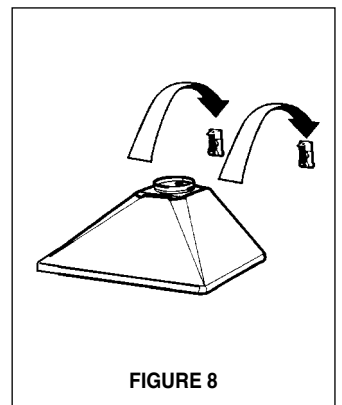

FIGURE 8
4. Hang the canopy on the brackets as indicated in FIGURE 8. There are two rectangular holes on the rear of the canopy. The brackets pass through these holes and the canopy hangs from the flanges on the brackets. Due to the weight of the canopy, two people should lift it to avoid injuries. Make sure that the canopy is secure on the brackets before releasing.